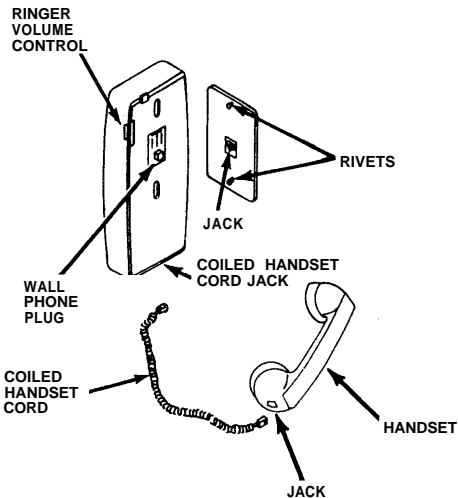

Figure 4. Wall Telephone Installation
1. Align the wall phone plug with the jack, then line up the hole in the back of the telephone set with the rivets on the wall outlet plate. Push in and slide the telephone down into place. (Figure 4)